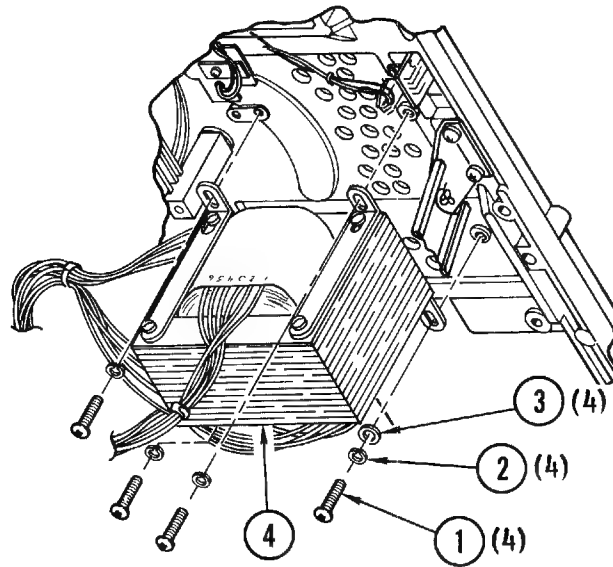

Figure 4-31. Transformer Assembly
**4-49. Removal and Replacement (Figure 4-31).** To replace the transformer assembly, place the transport in service access position (paragraph 4-3) and proceed as follows:
- e. Support transformer (4, Figure 4-31) and remove four screws four (1), four lockwashers (2), and four flatwashers (3), and remove from drive.